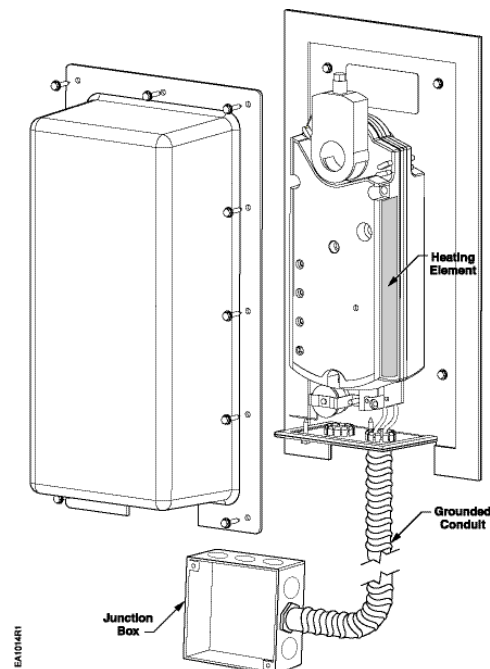

Figure 4.
- All actuators with auxiliary switches must have switch wiring routed through grounded conduit. Terminations must be in a UL approved Junction Box. See *Figure 4*.